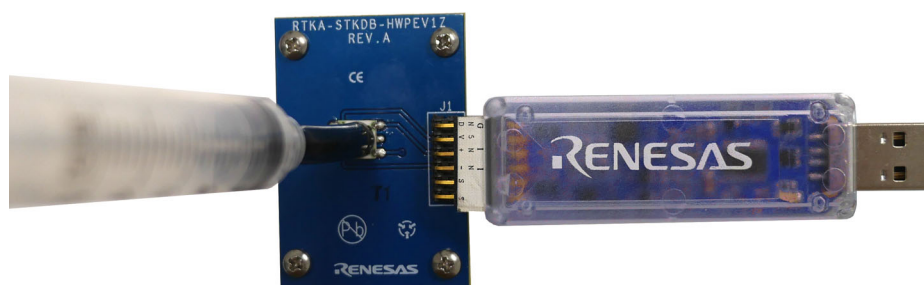

Figure 1. DAQ on a Stick with Honeywell Pressure Sensor
The reference design is a self-contained demo showing a complete signal chain solution from the Honeywell sensor, signal conditioning using Renesas precision parts, and a Renesas microcontroller. The complete reference design is conveniently housed in a USB stick form factor with a plug in sensor board. This compact design draws power through the USB port and uses a Graphical User Interface (GUI) to display the real-time voltage readings from the pressure sensor. Figure 1 shows the DAQ on a Stick connected to an external pressure sensor. Pressure is applied to the Honeywell sensor with a syringe.
1. After installing the software, connect the Honeywell pressure sensor board to the DAQ on a Stick as shown in Figure 1 on page 2. This provides 5V and ground to power the sensor.